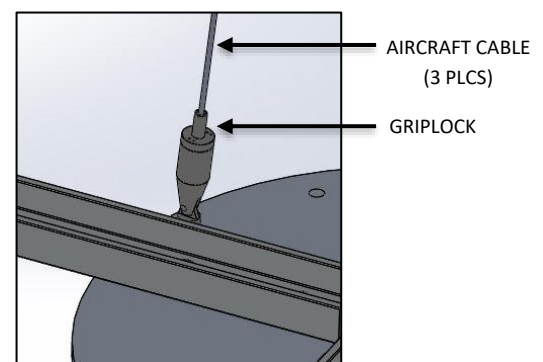

FIG. 19 – AIRCRAFT CABLE INSTALLATION
- Raise the MOUNTING STRAP ASSEMBLY to AIRCRAFT CABLES and feed ALL THREE AIRCRAFT CABLE into the GRIPLOCK, press the plunger of the GRIPLOCK and insert the AIRCRAFT CABLE into the body of the GRIPLOCK as shown in FIG. 19.